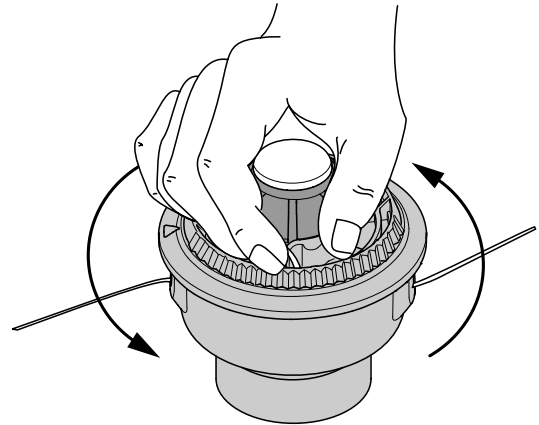

Fig. 22
8. Hold the outer spool. Wind the inner reel counterclockwise until approximately four (4) inches (102 mm) of line remain (Fig. 22).